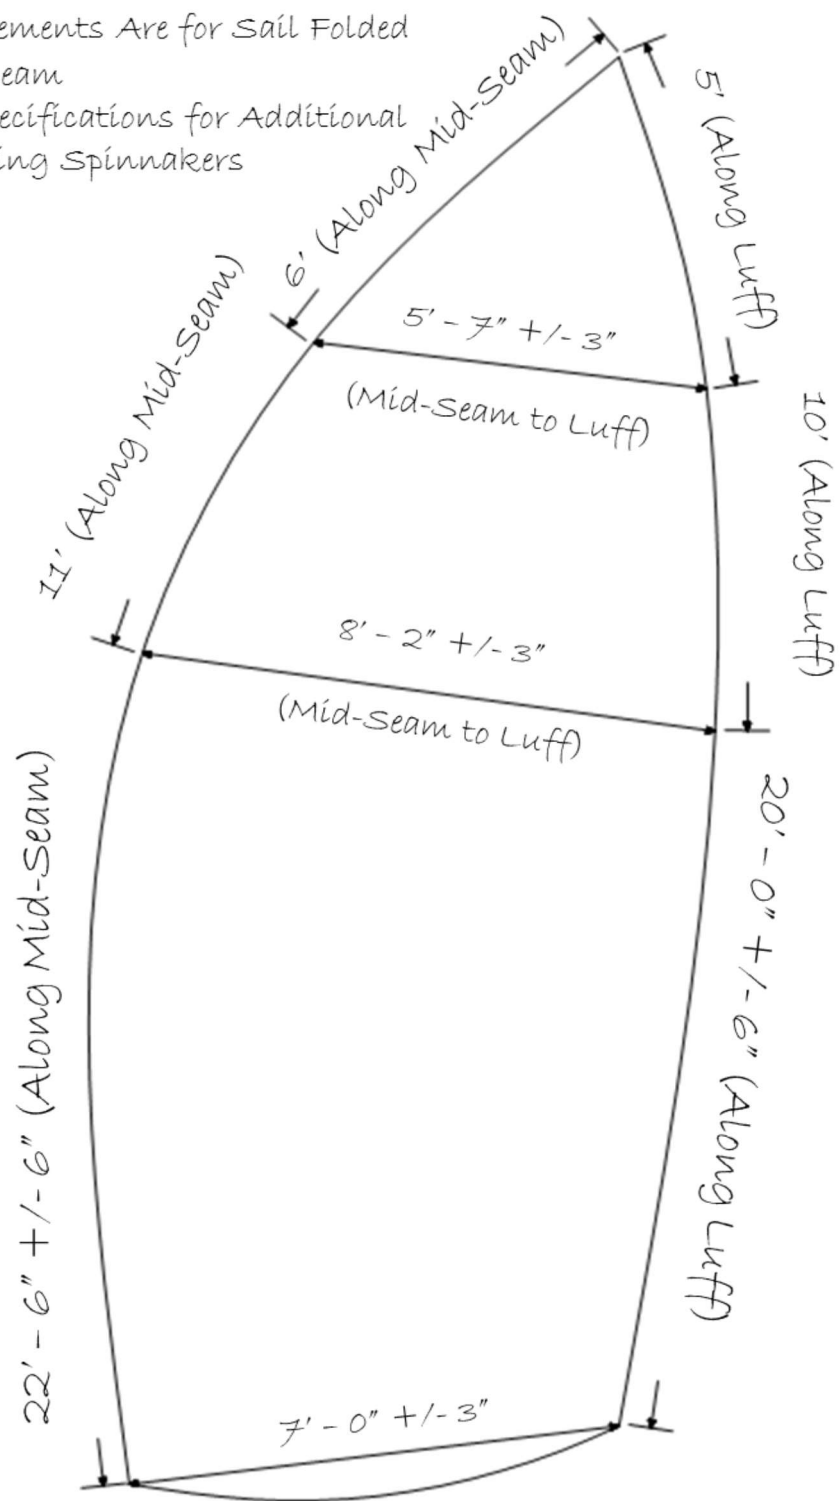

Figure 6 Spinnaker Measurements
- iii. Dimensions and tolerances are as shown in Figure 6.